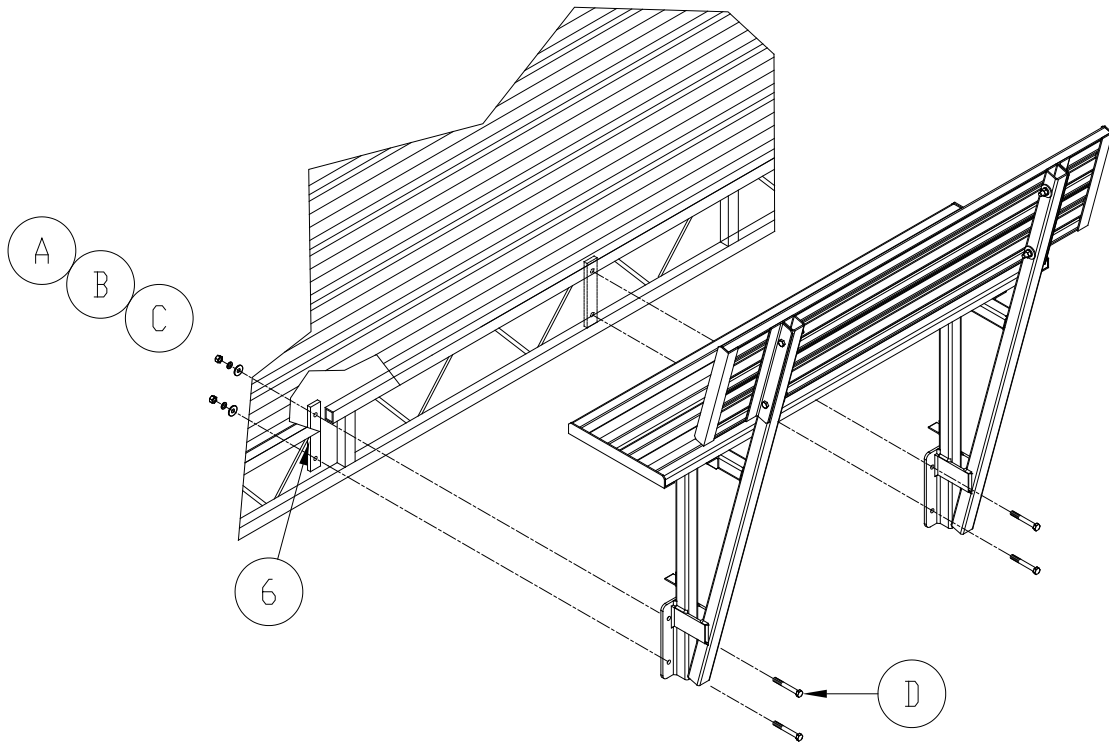

Figure 1-4
6. Mount the assembled bench onto the dock as shown in Figure 1-4. Fasten into place using the hardware and mount plates as shown.